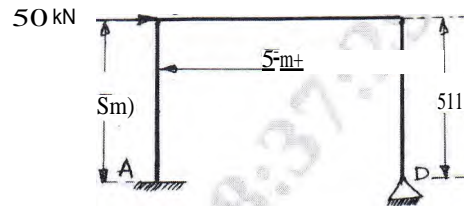

Fig.Q4
- 4 Analyse the portal frame loaded as shown in Fig.Q4 by using moment distribution method and draw the BMD and SFD. Take EI is constant. (20 Marks)